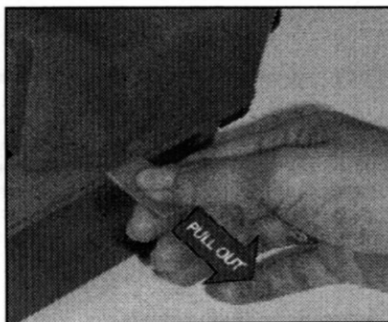

Figure 6
**WARNING: Pull out the tab before testing or operating (see figure6)**